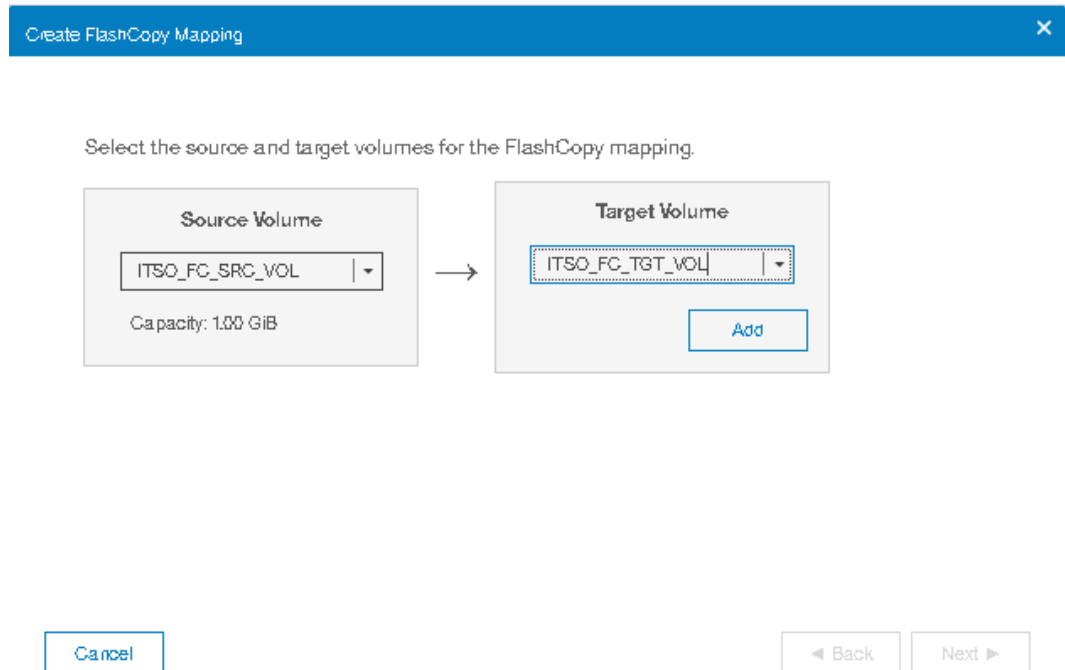

Figure 10-44 Create FlashCopy Mapping window
5. The Create FlashCopy Mapping window opens, as shown in Figure 10-44 on page 501. In this window, you must create the relationships between the source volumes (the volumes that are copied) and the target volumes (the volumes that receive the copy). A mapping can be created between any two volumes in a clustered system.